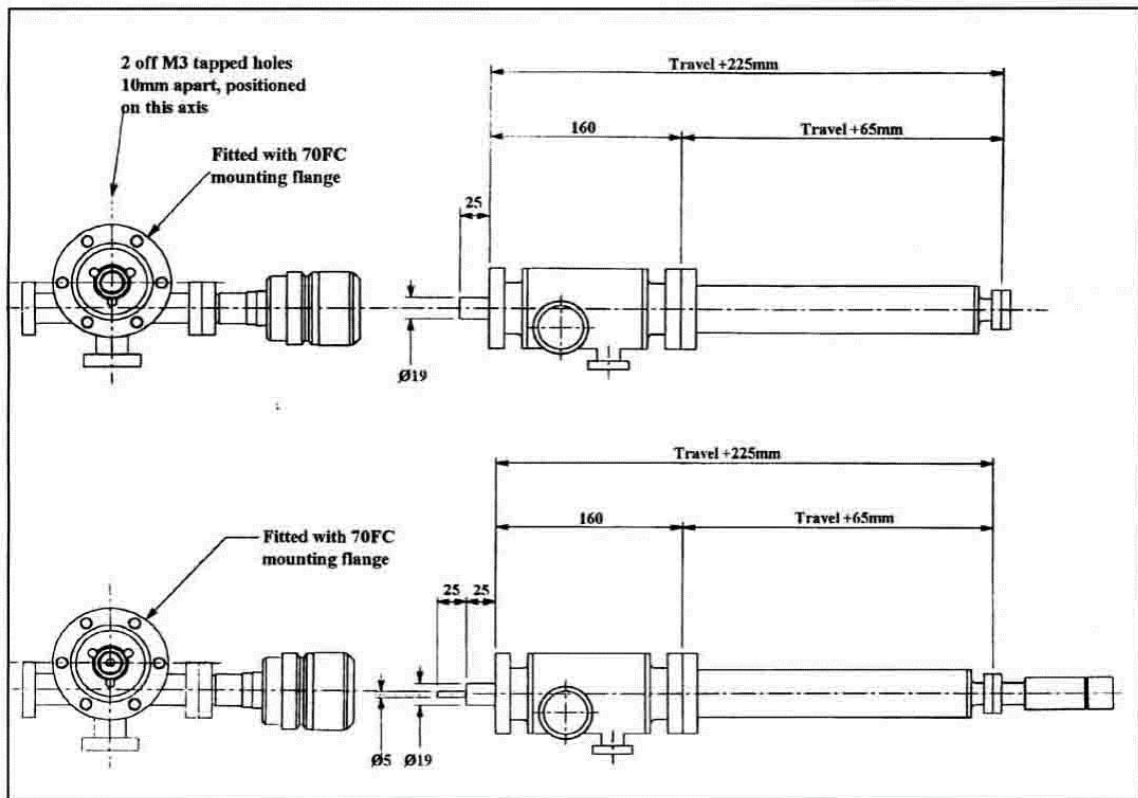

Figure 1-
2.1 Specification for LRP2 and RLRP2 Series (see Figure 1)